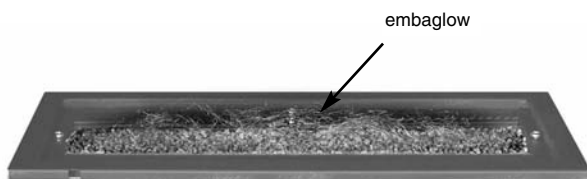

Fig. 25
2. Tease out the strands of embaglow and place onto the burner, ensuring they do not come into contact with the pilot (Fig. 25).